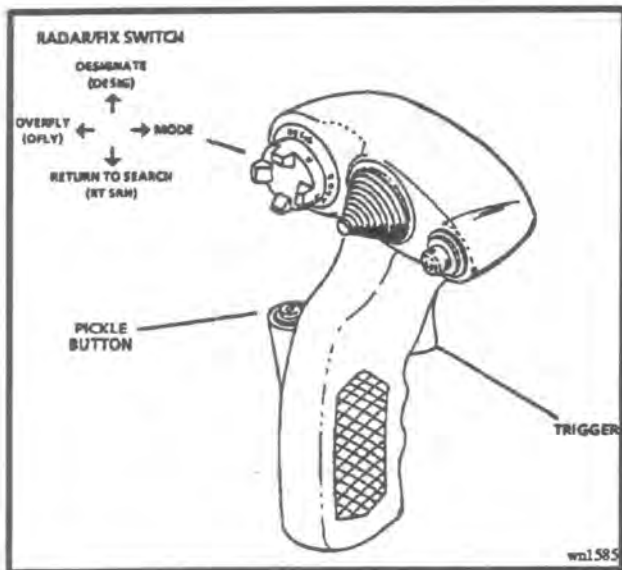

Figure 8-4 Control Stick Armament Switches
8.32 The bomb release button, referred to as the pickle button, is located on the left side of the control stick grip as shown in Figure 8-4. When the MANUAL WPNS switch is in the AUTO position, pressing the pickle button designates the aimpoint as the target and enables release consent for the NAS selected weapon. The pickle button must be held down until weapon release occurs (at least 0.35 sec). Releasing the switch prematurely will inhibit weapon release. With the MANUAL WPNS switch selected to BOMBS, pressing the pickle button enables instant release of bombs from the selected station(s).